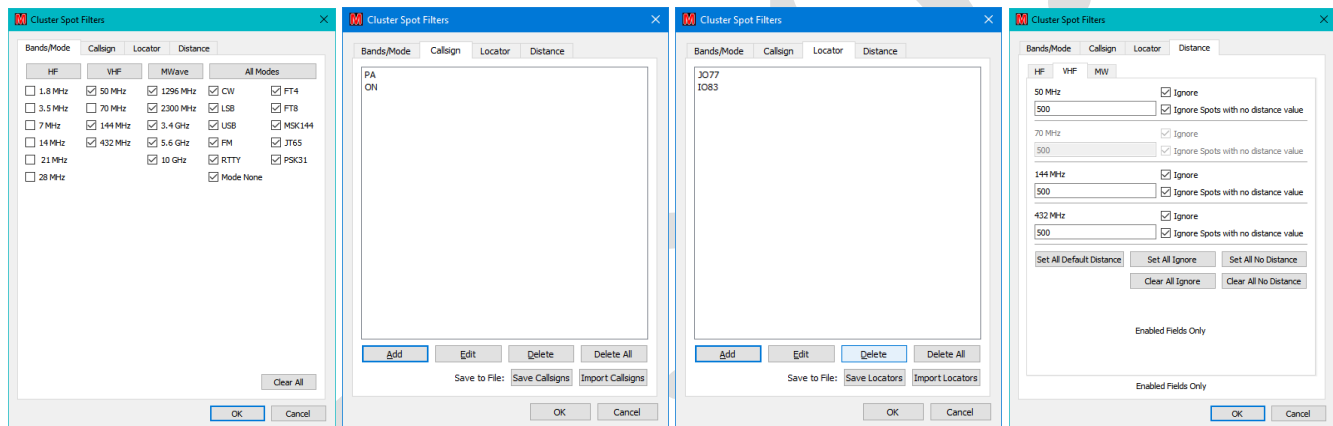

Figure 137 – Setting up filters
The content of the display can be controlled by clicking the “**Filters**” button and adjusting the Band/Mode of interest or the callsigns/locators to be watched and the distance constraints (see Figure 137).
The Distance filters further restrict the spots displayed on the basis of the specified maximum ranges¹²⁴. Note in Figure 137 (4) that the 70MHz box is disabled because 70MHz is not selected in in Figure 137 (1).